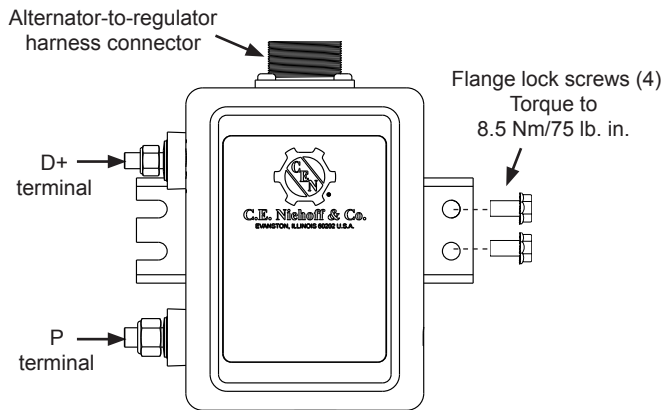
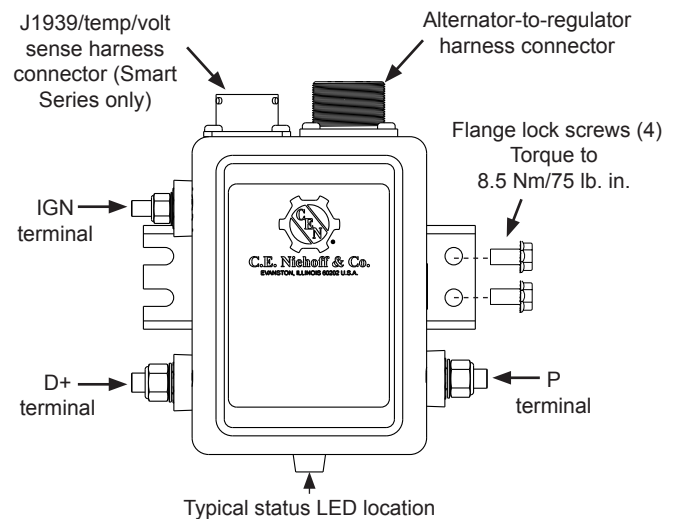

Figure 6: Typical Self-excited Regulator Connections
Figure 7: Typical Ignition-excited Regulator Connections
C653/C653A alternators are compatible with self-excited (see Figure 6) and ignition-excited regulators (see Figure 7). Available CEN Smart Regulators offer added features such as temperature/voltage compensation and J1939 communication¹.
3. Plug alternator-to-regulator into receptacle on regulator. See Figures 6 and 7 for receptacle location.
- Regulator **D+ terminal** (if required) provides DC system battery voltage to vehicle (5A maximum) for charge indicator lamp, relay, or multiplex while alternator is producing output. Torque terminal hardware to 4.5 Nm/40 lb. in. See Figures 6 and 7.
- Regulator **P/AC terminal** (if required) taps AC voltage from alternator, typically half the charge voltage (3A maximum). P/AC terminal provides signal frequency at 10:1 ratio of alternator RPM for use with tachometer. Torque terminal hardware to 4.5 Nm/40 lb. in. See Figures 6 and 7.
- Regulator **IGN terminal** (if required by regulator¹) must receive voltage from vehicle DC ignition source or multiplex in order to energize regulator. Torque to 4.5 Nm/40 lb. in. See Figure 7.
5. If using a CEN Smart Regulator with J1939/temperature-voltage sense harness, plug J1939/sense harness into J1939 receptacle on regulator. See Figure 7 for receptacle location. Reference harness installation instructions included with harness for more information. Harness sold separately³.